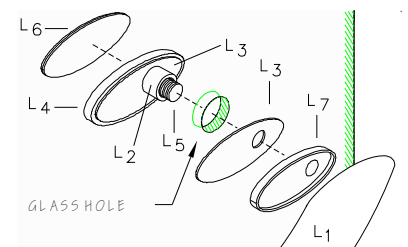

figure 7
Install Towel Bars (L), see exploded view - sheet 1 and figure 7 on this page. Slip a Back Plate (L4), a Plastic Spacer (L3) and a Sleeve Bushing (L2) onto a Towel Bar Screw (L5) as shown in figure 7. Insert it into the glass hole as shown and attach one end of a the Towel Bar (L1) to it (do not forget Plastic Spacer {L3} and Collar {L7}). Attach the other end of the Towel Bar onto the Glass Panel. Tighten down on screws to secure. Cover the screws by placing a Back Plate Cover (L6) over the Back Plate (L4). Repeat step for the remaining Towel Bar.